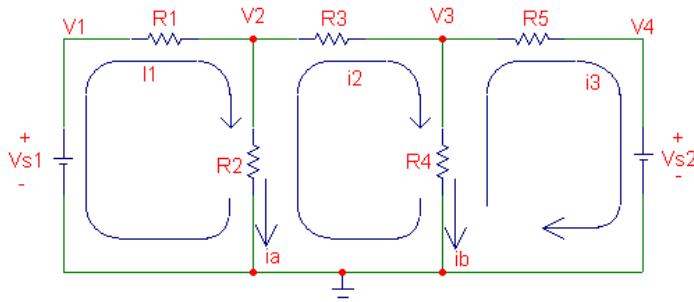

Figure 1
1. Construct the circuit shown in Figure 1 using available power supply, resistors, breadboard, and connecting wires provided. $R_1 = 2.2 \text{ k}\Omega$, $R_2 = 4.7 \text{ k}\Omega$, $R_3 = 6.8 \text{ k}\Omega$, $R_4 = 5.6 \text{ k}\Omega$, $R_5 = 1.5 \text{ k}\Omega$.
1. From your measured mesh currents, calculate the value of the branch currents i_a and i_b shown in Figure 1.